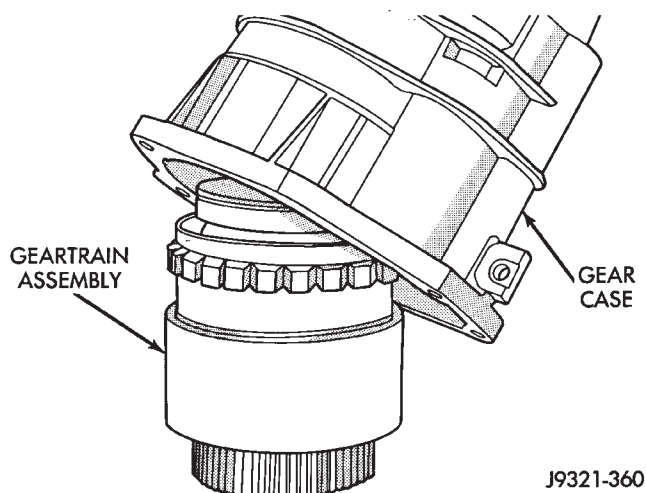

Fig. 303 Overdrive Gear Case Installation
(7) Support geartrain on Tool 6227-1 (Fig. 303). Be sure tool is securely seated in clutch hub.
(8) Install overdrive gear case on geartrain (Fig. 303).